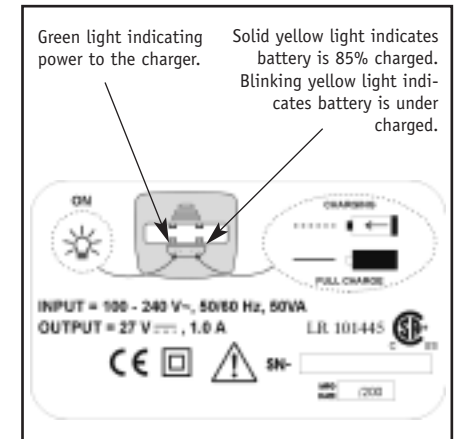

Figure 8
1. Check to make sure the green light on the charger is illuminated (Figure 8). This indicates that the charger is on. Insert the battery into the charger with the silver contact points of the battery going into the charger.
2. The charging indicator light will flash yellow while the battery is charging. If the battery is approximately within 85% of being fully charged, the charging indicator light will illuminate solid yellow (Figure 8).